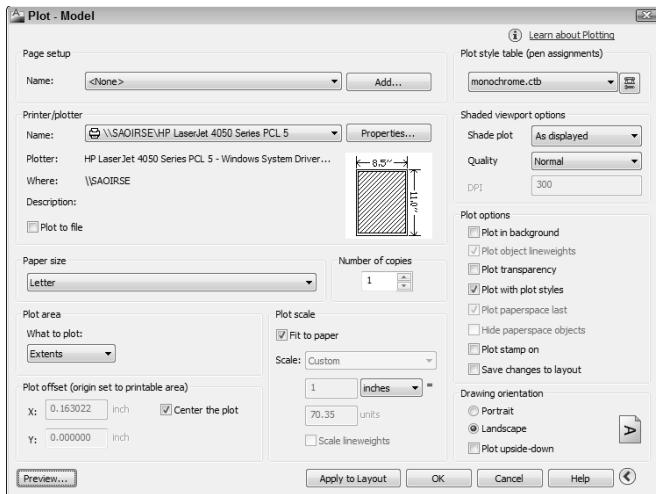

Figure 16-3:
The Plot dialog box reveals additional settings, as shown in Figure 16-3.
12. In the Plot Options area, make sure that the Plot with Plot Styles check box is selected and that the Save Changes to Layout check box is deselected, as shown in Figure 16-3.